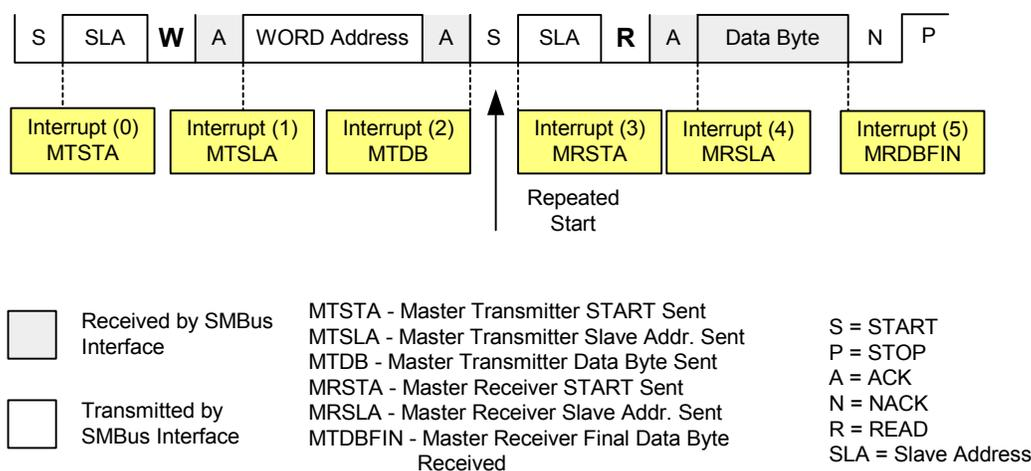

Figure 20. EEPROM Single Byte Read
EEPROM_ByteRead(). This function implements the EEPROM's random read operation. As Figure 20 shows, the host device is in Master Transmitter mode until the word address is sent. After the word address is acknowledged, Interrupt (2) sets the STA bit to send a repeated start and changes the SMB_RW flag from WRITE(0) to READ(1). From this point, the device takes the role of Master Receiver until the end of the transfer. When the data byte is received, it is NACK'ed to signal the EEPROM to stop sending. The NACK is immediately followed by a STOP.
In this demonstration, we will be debugging the *EEPROM_ReadByte()* routine. The goal is to verify the individual stages (all interrupts and state changes) of the transfer shown in Figure 20. We will assume that the EEPROM word we are reading (word address 0x25) contains the data (0xBB). The Slave Address of the EEPROM is 0xA0.
Following the waveform in Figure 20, we are now in the MTSTA state. The ISR detects the START condition and prepares the SMBus interface to send the Slave Address + WRITE. The Slave address + WRITE will be sent after the SI bit is cleared. We now configure the oscilloscope to trigger on the rising edge of SCL and click the “go” button in the IDE.